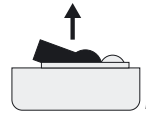

Fig. No. 4
4. Remove the plastic tab inserted between one of the battery terminals and battery slot (see Fig. No. 4).